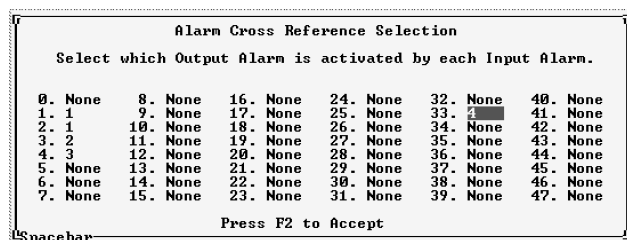

Figure 4-10 ALARM CROSS REFERENCE
This is a text string (up to 15 characters) to describe the alarm. This test string is sent via Morse code if the alarm input is programmed with a Tx ID and an output is selected in the cross reference menu (see Figure 4-10).
*NOTE: More than one alarm condition can have the same output alarm (see Figure 4-10).*